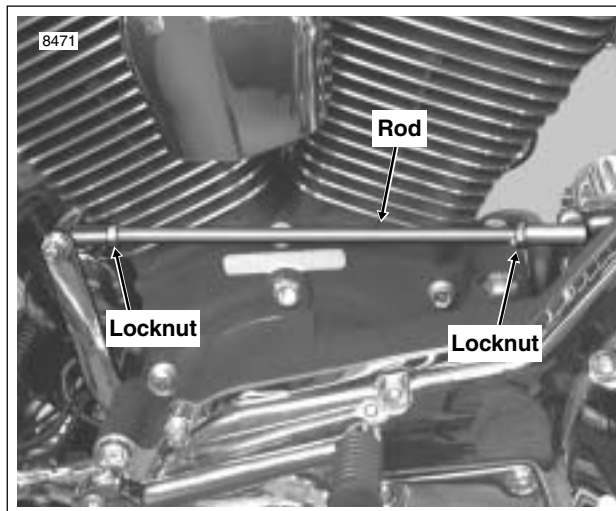

Figure 7-2. Shifter Linkage Adjustment
1. Remove locknut, lockwasher and flat washer to free front end of shifter rod from shifter lever. See Figure 7-2.